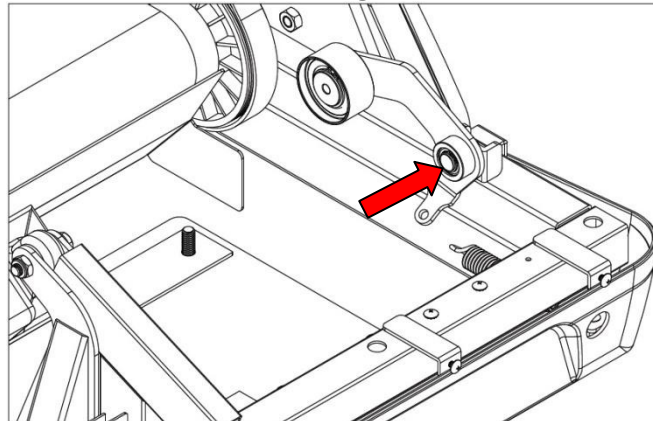

Figure 4.8.1
5) As shown in Figure 4.8.1, remove the idler wheel by removing the C-Ring with a tool.